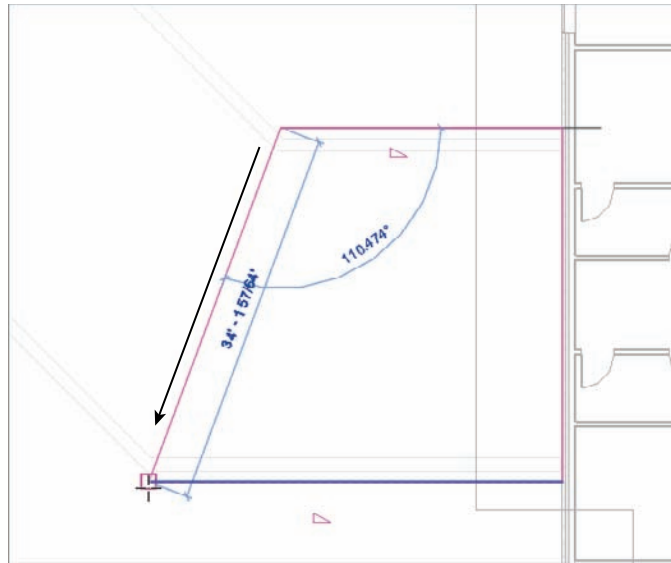

FIGURE 7.28 Draw a diagonal line as shown.
5. Draw a diagonal line from the endpoints of the two lines, as shown in Figure 7.28. Make sure the Defines Slope button is not selected.